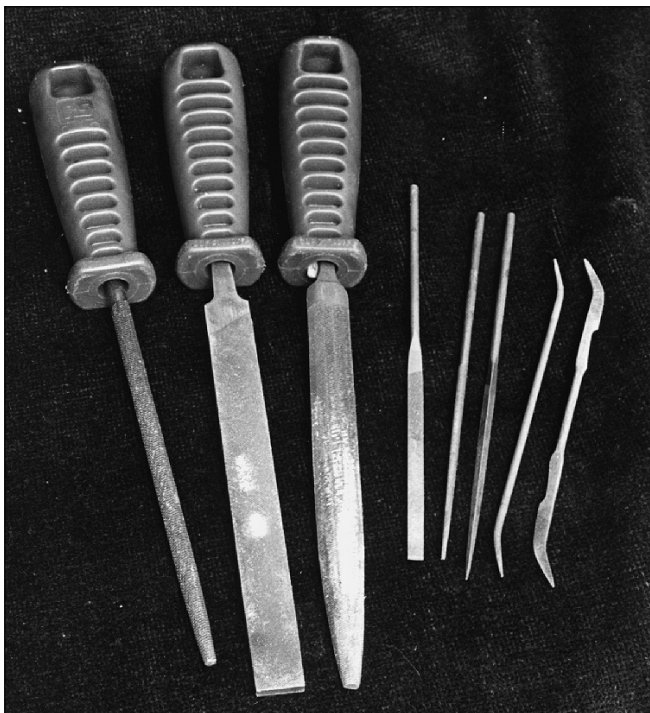

Fig 26.5: A selection of files. The two on the right are Reifler files which are useful for filing awkward shapes
- Files with handles (Fig 26.5). 150-200mm second cut. Hand, half-round, round and three-square, also the same shapes in round-handled needle files. In the interests of